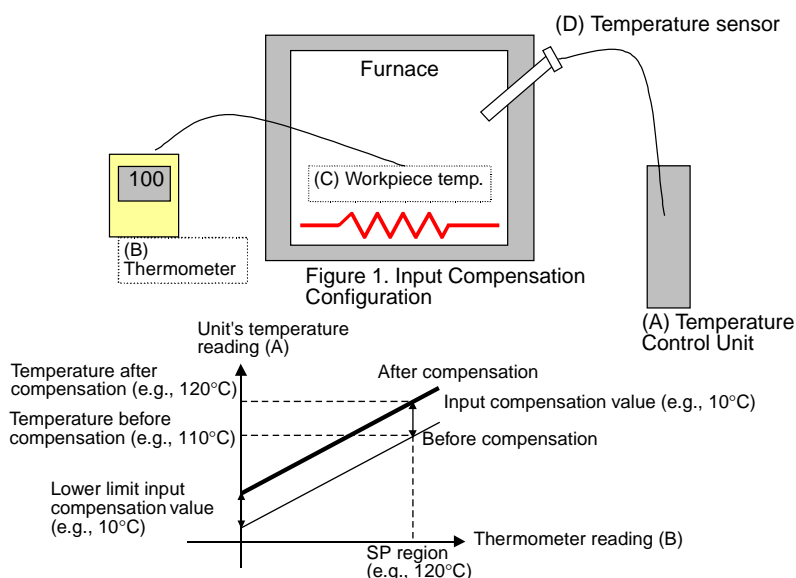

Figure 2. Compensation Graph of 1-point Compensation
- The input compensation value is just the difference between the workpiece's temperature (B) and the Temperature Control Unit's reading (A). Figure 2 shows the process values before and after compensation.
- After setting the input compensation value, compare the temperature displayed on the Unit (A) with the temperature indicated by thermometer (B). The input compensation value is correct if the two readings are approximately equal.